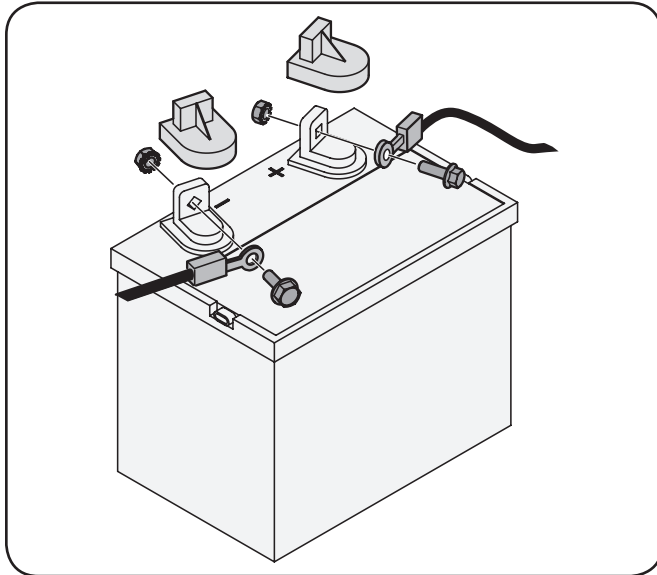

Figure 3-3
1. Remove the plastic cover, if present, from the positive (+) battery terminal and attach the red cable to the positive (+) battery terminal with the bolt and hex nut. See Fig. 3-3.
2. Remove the plastic cover, if present, from the negative (-) battery terminal and attach the black cable to the negative (-) battery terminal with the bolt and hex nut. See Fig. 3-3.